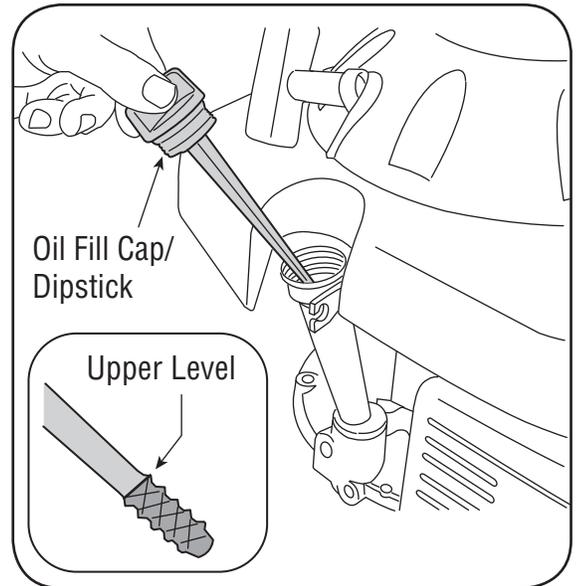

Figure 3-3
1. Remove the oil filler cap and wipe the dipstick clean. See Figure 3-3.
3. If the level is low, slowly add oil to the upper limit on the dipstick. See Figure 3-3 inset.